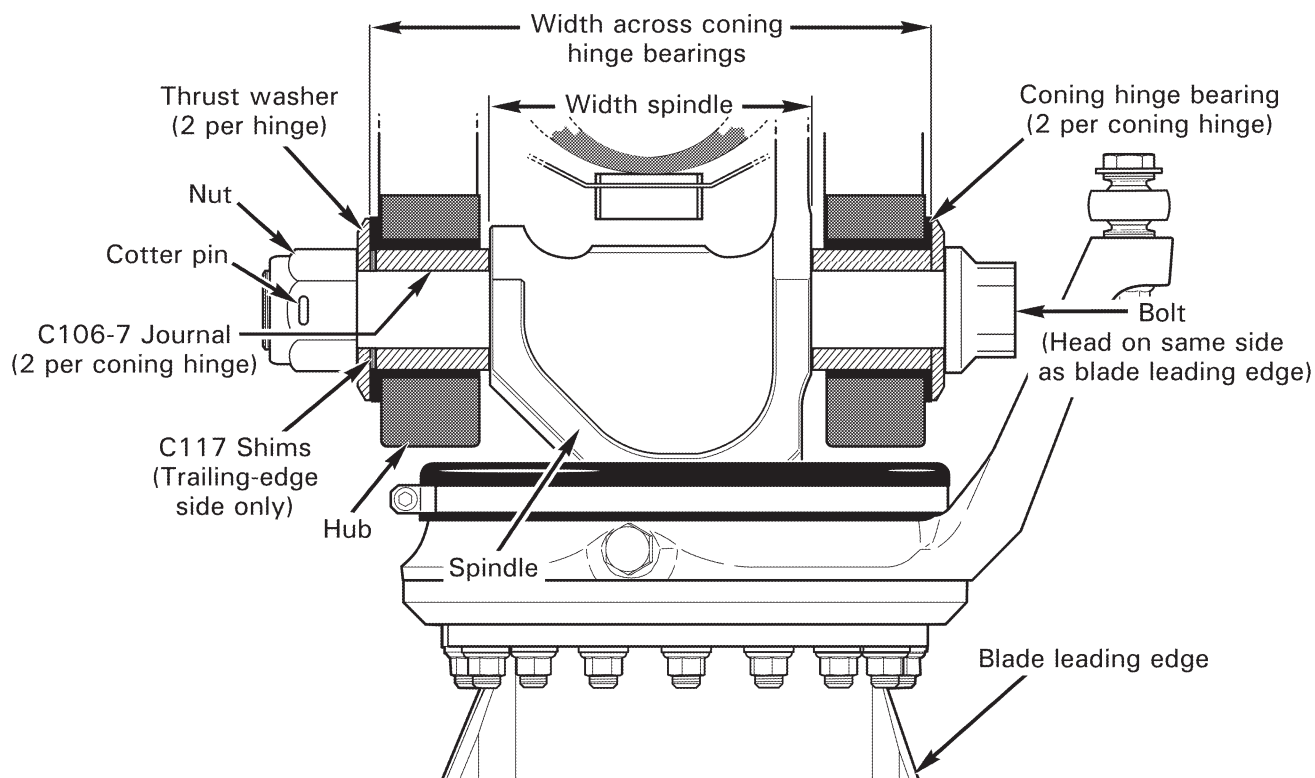

FIGURE 62-6B CONING HINGE (BLADE INSTALLATION)
1. Refer to Figure 62-6B and Table 62-1. Remove cotter pin, nut, thrust washer, and nut-side C117 shims. Adjust coning hinge axial clearance by changing nut-side shim stack thickness in small increments; reducing shim stack thickness decreases axial clearance, increasing shim stack thickness increases axial clearance. Install shims, thrust washer, and nut.